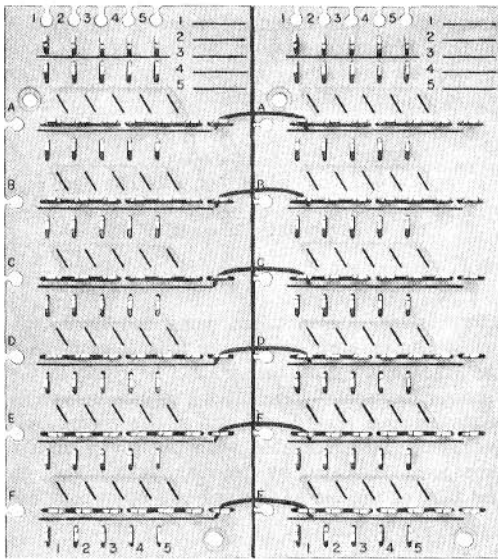

Fig. 3—Modular Array (Multiplied Horizontally)
**2.03** The various components used in the assembly of a complete 1A1 Matrix Block are shown in Fig. 2. It will be noted that the cross-grid or "matrix" array consists of five vertically positioned rows of a 8-clip terminal (8-terminal connector). The uppermost clip is for the termination of connecting circuit leads. The bottom (end) clip serves as a multiplying point for extending the capacity of the matrix unit. Six rows of a 7-clip terminal (7-terminal connector) are positioned at right angles to these. The left-hand clip on each serves to terminate external circuit leads. The right side (clip) serves as a multiplying point for extending the horizontal capacity (Fig. 3, 4, and 5).
provided. Where extended capacity beyond one block is necessary, modular arrays (Fig. 3, 4, and 5) may be employed. Respectively, these offer the following additional capacities: